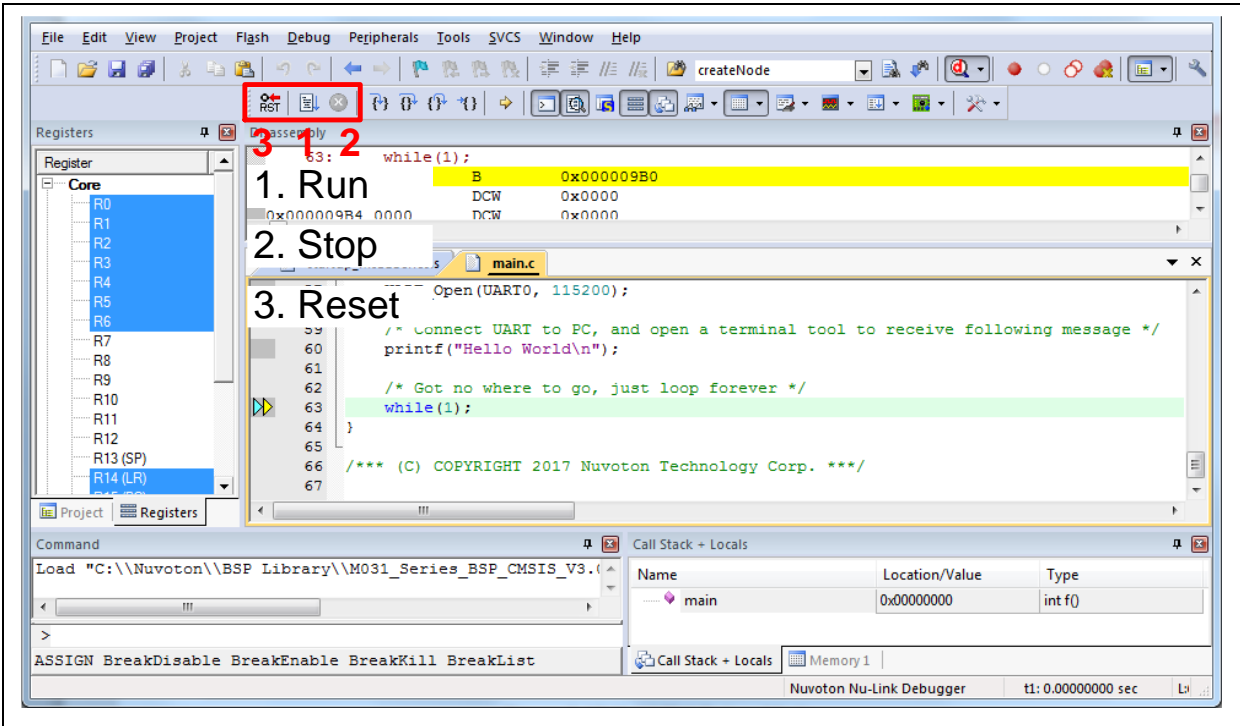
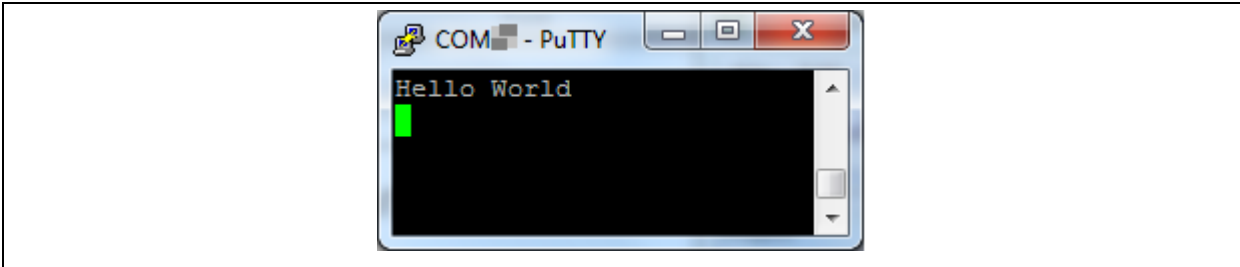

Figure 3-13 Keil MDK Debug Mode
Figure 3-14 Debug Message on Serial Port Terminal Windows
4. Figure 3-13 shows the debug mode under Keil MDK. Click "Run" and the debug message will be printed out as shown in Figure 3-14. User can debug the project under debug mode by checking